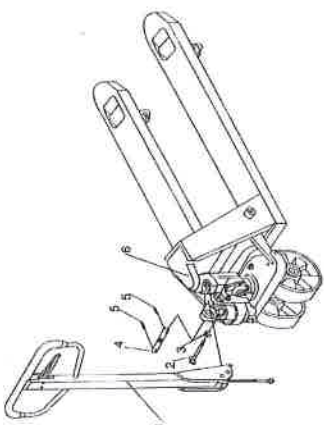

Fig.5 Tiller assembling
- c) Press the tiller arm down; take away the pin (2, Fig. 5).
- d) Set the control lever of the handle to 'RAISE' position, then raise the lever plate with the pin (2, Fig. 5) and insert the adjusting bolt into the front slot of lever plate. Note: Keep the adjusting nut under the lever plate.
- e) Use a hammer to insert the 2nd dowel pin (5, Fig. 5) into the 2nd hole of the axle.